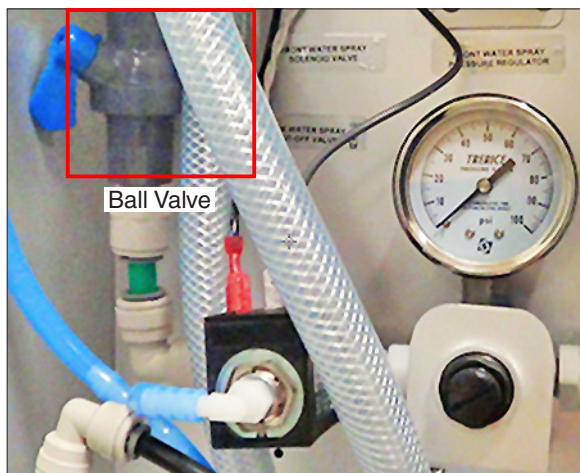

Figure 9.2c: Ball Valve and Back Spray Control Assembly Components
- If the back-spray is desired, verify that the Ball Valve is turned ON (Figure 9.2c) and program the step using the tester Main Menu (see Section 10).